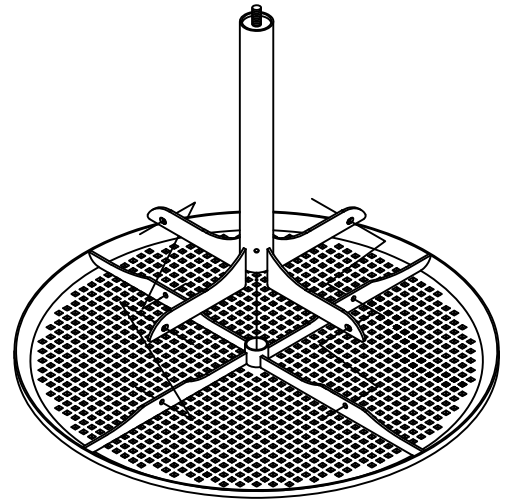

FIG. 3
Invert top (A-) and attach leg (C3) to top (A-) using one (F), two (G), one (P) and one (H), see Fig.3. Finger tighten.
Invert Pedestal Base (B-) and engage weld-nut into threaded rod, see Fig. 3. Be sure to slide washer (D3) over threads prior to tightening parts and be sure leg and base are tight. Secure leg to base using one (L), tightening nut to threaded rod as a double-nutted joint.